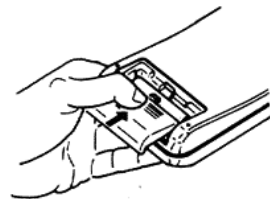

Fig.6
3. Reinstall the rear cover of the remote control unit. Slide the rear cover back as shown in Fig. 6.